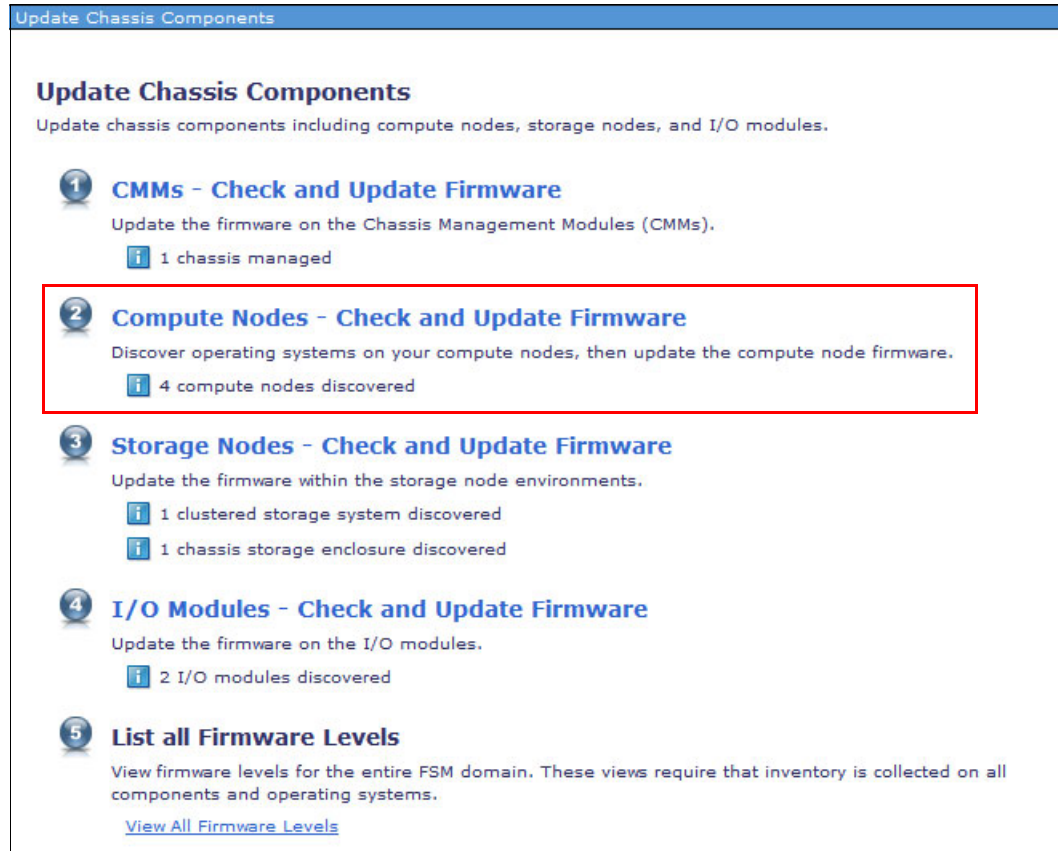

Figure 6-92 Update Chassis Components window: Check for compute node updates
1. In the Update Chassis Components window, click **Compute Nodes - Check and Update Firmware**, as shown in Figure 6-92.